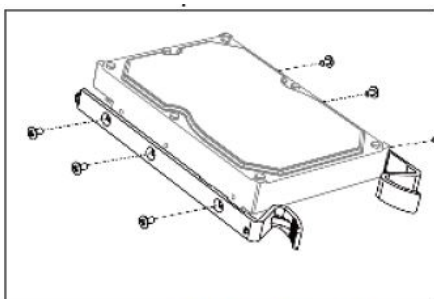

Figure 2-7 Fix Mounting Ear
STEP 1 Fix mounting ears to HDD with screws. Refer to Figure 2-7.